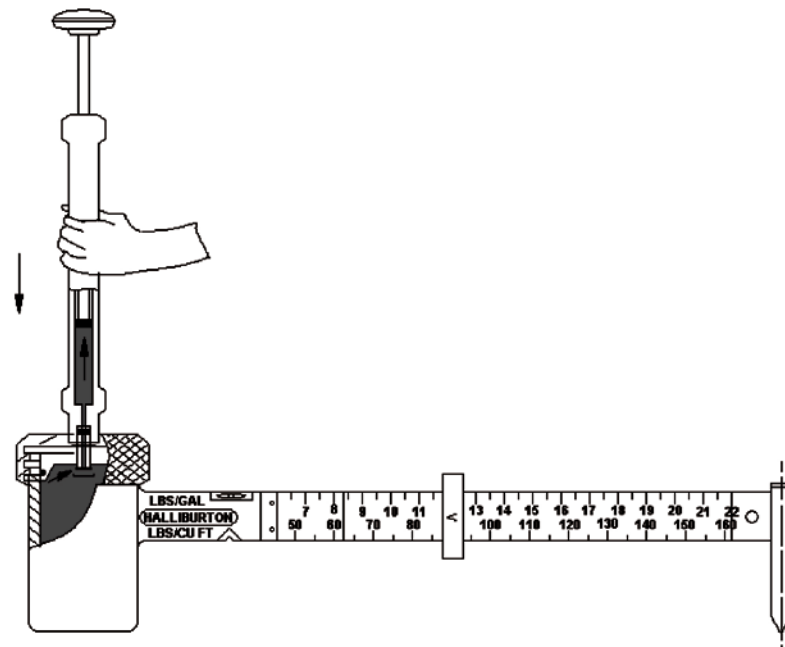

Figure 4-7 Releasing pressure
1. Reconnect the empty plunger and push down on the cylinder to release pressure. See Figure 4-7.